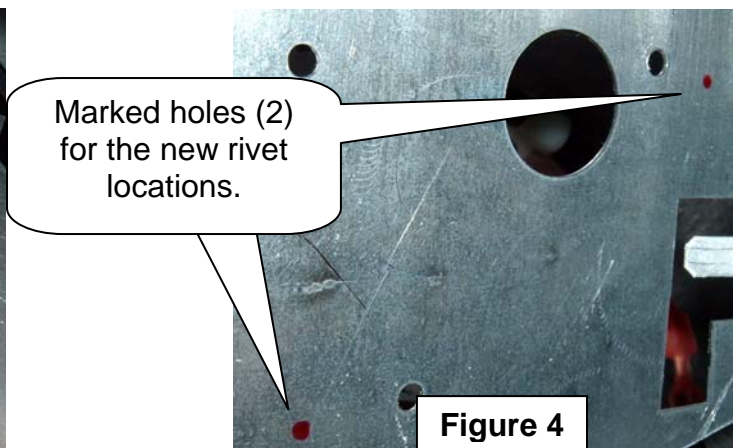
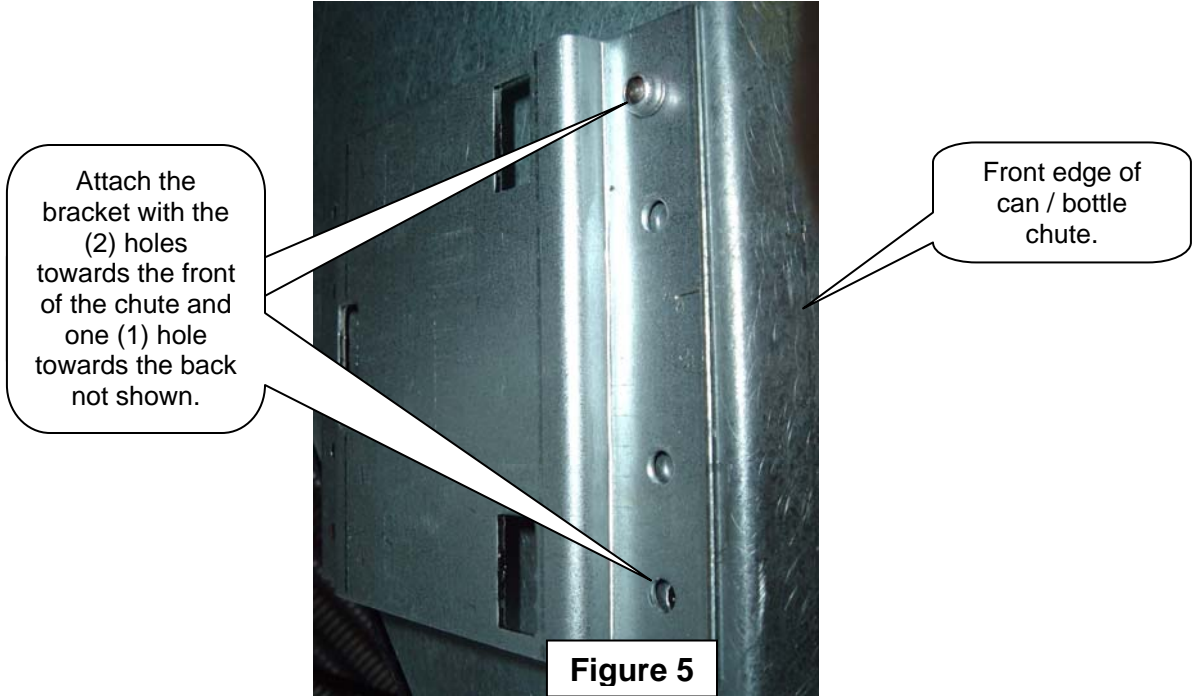
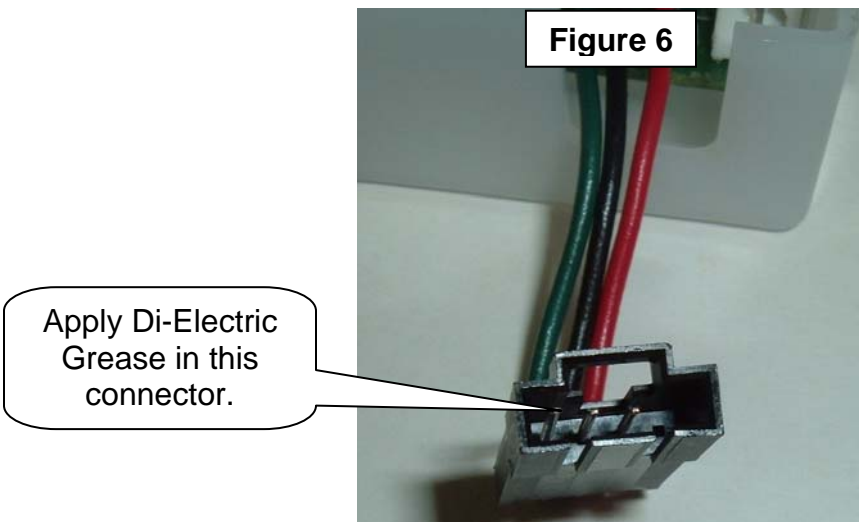

**Figure 2**
**Figure 3**
**Figure 4**
4. Remove Rivets attaching current Vend Sensor to the metal chute. See Figure 2.
6. Using the New Vend Sensor Bracket (63907104) as a template, place the New Vend Sensor Bracket on the top of the metal chute. Use the existing rivet hole "A" in Figure 2 as a locator to position bracket on chute. Mark the new holes using an awl or magic marker. See Figure 3. Figure 4 shows the new hole locations which will be used for mounting the New Vend Sensor Bracket.
7. Drill the new hole locations (2) marked in Figure 4 on the previous page.